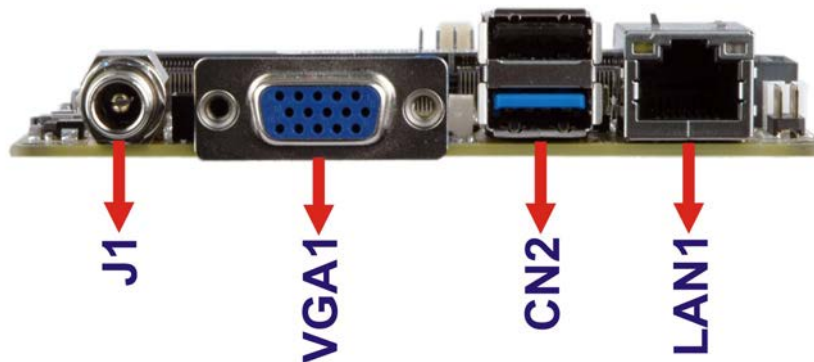

Figure 3-20: External Peripheral Interface Connector
**Figure 3-20** shows the HYPER-BT external peripheral interface connector (EPIC) panel. The EPIC panel consists of the following:
CN Location:	See Figure 3-20
- CN Location:** See **Figure 3-20**